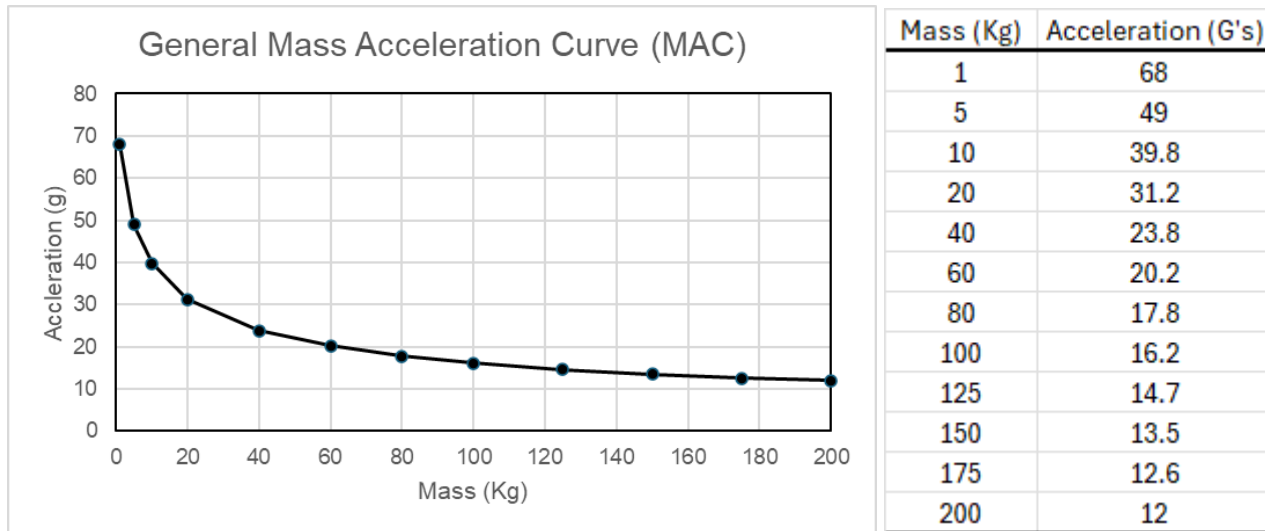
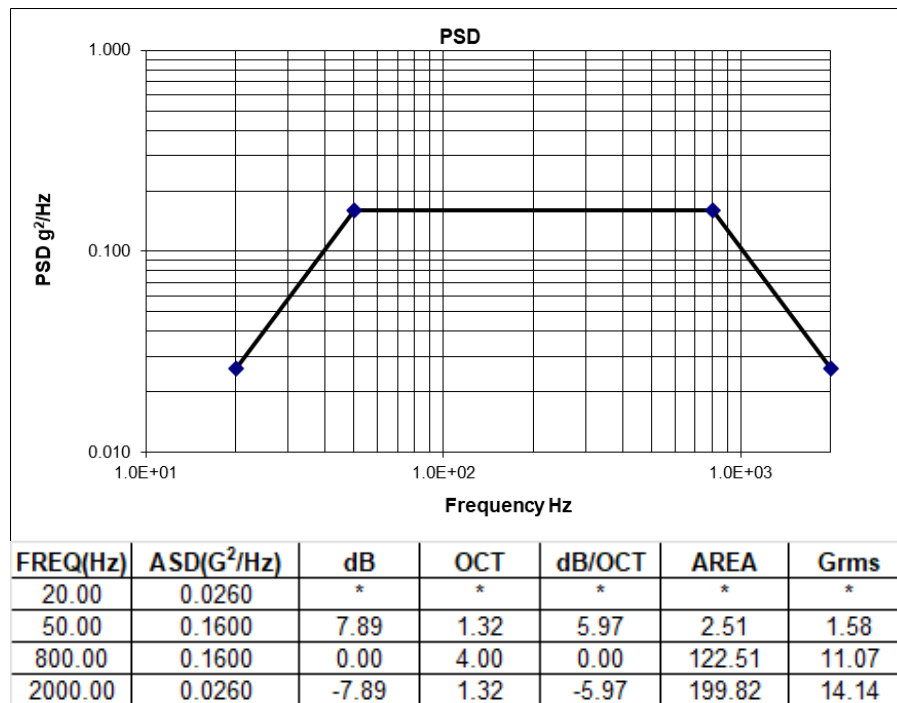

Figure 3-16. Mass Acceleration Curve
Figure 3-17. Random Vibration Profile
The mass acceleration curve (MAC) shown in Figure 3-16 and the random vibration profile shown in Figure 3-17 will be set up and analyzed. Each of these environments shall be applied along the global x, y, and z axes, creating six load cases to run.
- c. Enter the MAC data points shown in Figure 3-16 in the Load Editor table. The complete set of MAC data, which extends through 200 Kg, does not need to be entered into the table. However, at least 3 data points must be entered, and those points should envelop the biaxial gimbal mass.
4. Enter the base acceleration spectral density table from Figure 3-17.